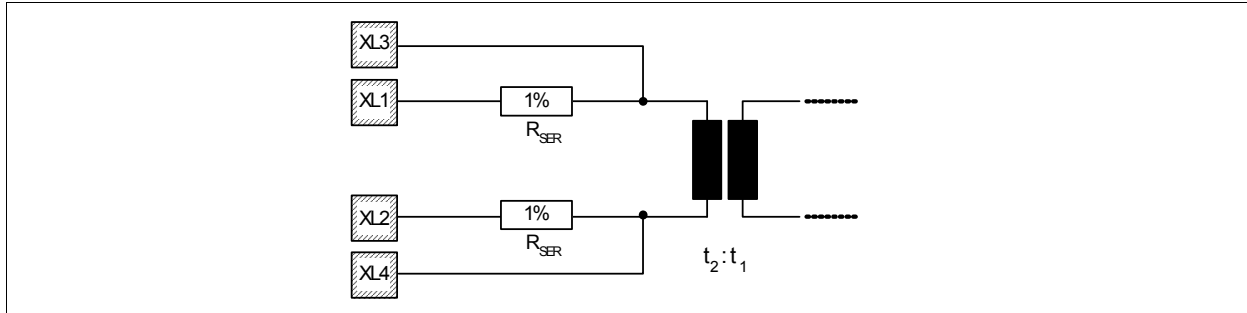
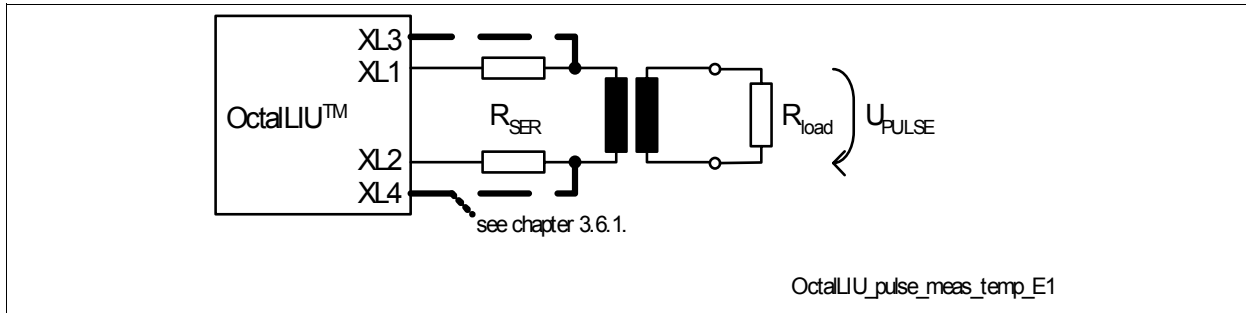
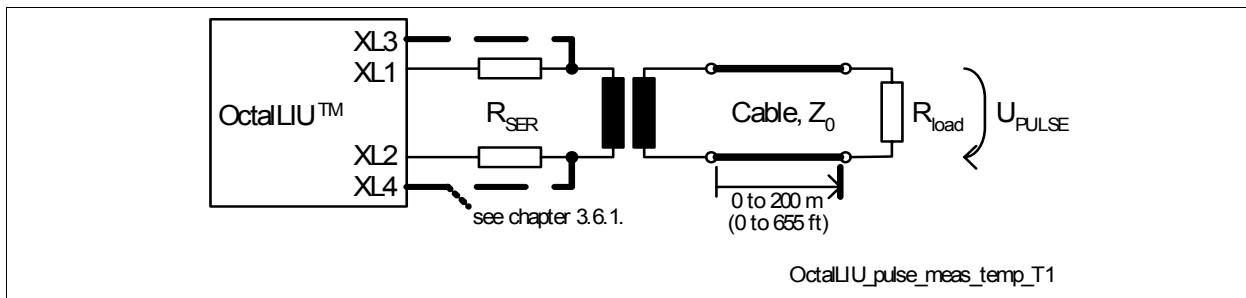

Figure 30 Transmit Line Interface
Figure 32 Measurement Configuration for E1 Transmit Pulse Template
Figure 33 Measurement Configuration for T1/J1 Transmit Pulse Template
The principle transmit line interface is shown in Figure 30. Two application modes are possible:
- For generic E1/T1/J1 applications with optimized return loss the transmit output resistance is configured by using the pins XL3 and XL4 as shown in Figure 30. The operation mode (E1/T1/J1) is selected by software (register bit PC6.TSRE) without the need for external hardware changes: Here R_{SER} is always 2 Ω , see Table 23.
- For T1: FCC68; ANSI T1. 403 1999, figure 4; ITU-T G703 11/2001, figure 10 (for different cable lengths), see Figure 56 and Figure 33 for measurement configuration were $R_{load} = 100 \Omega$
- For E1: ITU-T G703 11/2001, figure 15 (for 0 m cable length) see Figure 55; ITU-T G703 11/2001, figure 20 (for DCIM mode), see Figure 32 for measurement configuration were $R_{load} = 120 \Omega$ or $R_{load} = 75 \Omega$
If LBO attenuation is selected, the programming of XPM(2:0) will be ignored. Instead the pulse shape programming is handled internally: The generated pulse shape before LBO filtering is the same as for T1 0 to 40 m. The given values are optimized for transformer ratio: 1 : 2.4 and cable type AWG24 using transmitter configurations listed in Table 23 and shown in Figure 30. The measurement configurations of Figure 32 with $R_{load} = 120 \Omega$ and Figure 33 with $R_{load} = 100 \Omega$ are used.
The given values in Table 26 and Table 27 are optimized for transformer ratio: 1 : 2.4; cable: AWG24 and configurations listed in Table 23 and shown in Figure 30.